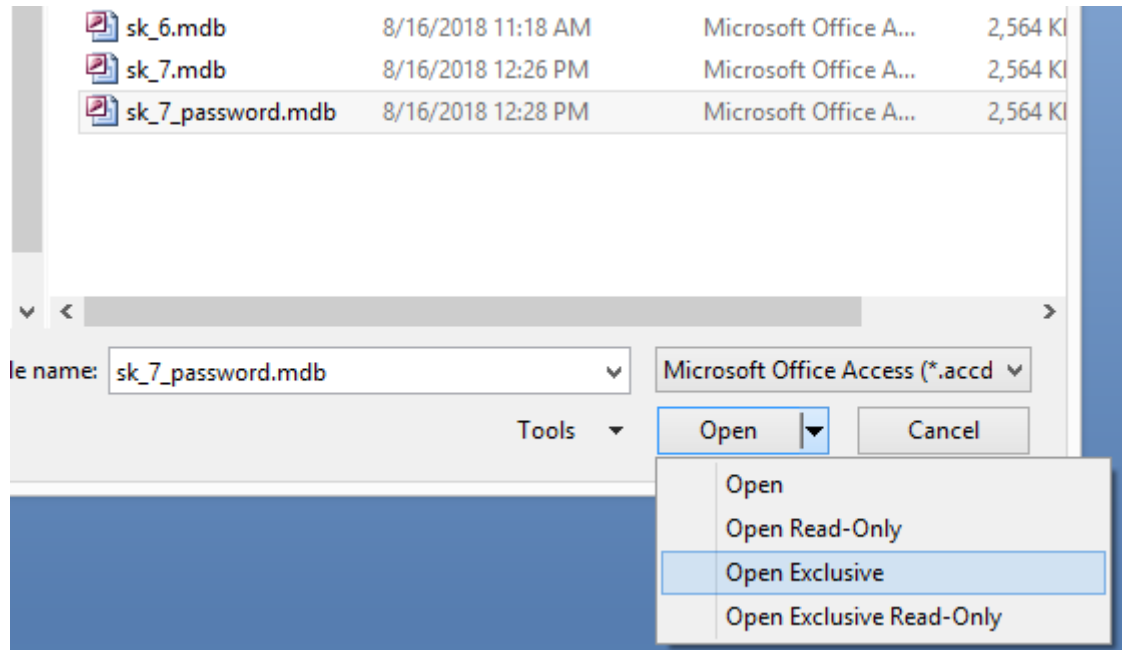

Figure 7.5
- 3) Open exclusive the database copy (figure 7.5);